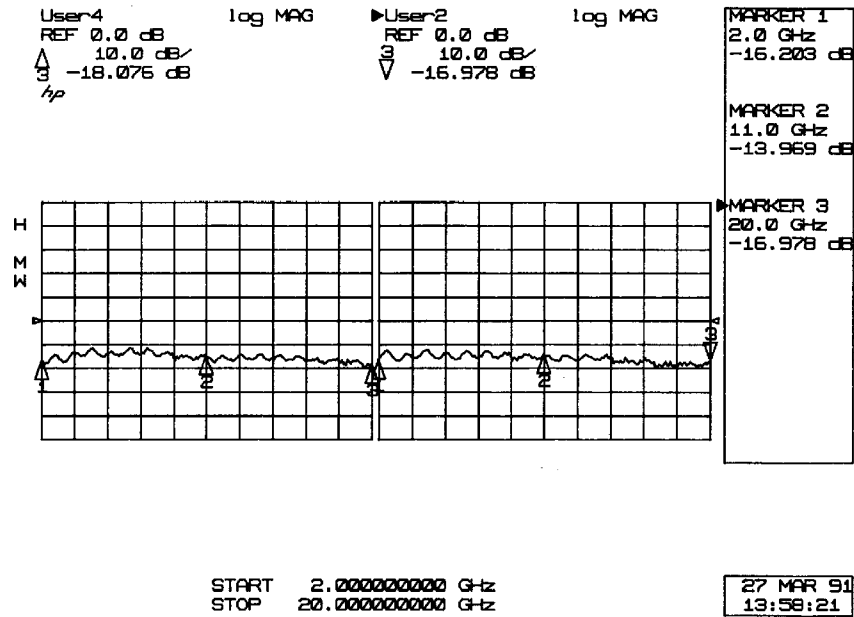

Figure 6-4. b1 and b2 Signal Paths
2. Press INSTRUMENT STATE **RECALL** 3. This brings up a display similar to Figure 6-4.